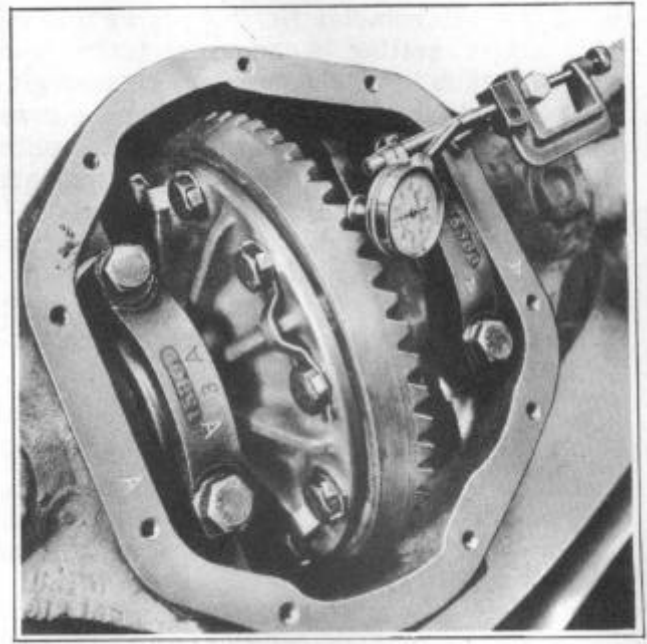

FIGURE 52
32. Install bearing caps, coating bolt threads with seal in g compound. Bearing cap marks must match those on each side of housing, Figure 52. Remove housing spreader and torque bearing cap bolts to 70 to 90 foot pounds.
33. Install dial indicator on housing with butt on contacting edge of drive gear tooth and check backlash between gear and pinion, turning gear and measuring in four places equally spaced around gear, Figure 52. Backlash should range between .003" and .006" and should not vary more than .002" between positions checked.